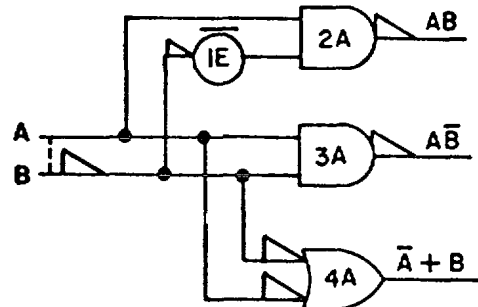

Figure 4-16. Example of Mixed Logic
**4-23.** The use of mixed logic and inverting hardware requires that the user watch the signal levels closely in order to understand the logic function of a gate. In the example of mixed logic shown in Figure 4-16, signals A and B enter the module from the left. Signal A is true when high (input not flagged) and signal B is true when low (input flagged). Looking at NAND gate 3A, it can be
**4-24.** Gate 2A in Figure 4-16 also requires two high-level inputs in order to generate a low-level output. The one input is high when A is true. The B input to gate 2A must also be high. This condition exists when B is true. To prove this, one can see that when B is true its input is low; however the low-level input for B is inverted at 1E so that the signal received by gate 2A is high. Thus when both A and B are true, gate 2A is complete and it generates a low-level output representing  $\bar{A}B$ .
**4-25.** Gate 4A in Figure 4-16 produces a high-level output when either input is low. Since B is low when true, gate 4A produces its high-level output when B is true. Signal A, however, is high when true and thus gate 4A responds only to the false condition of signal A. In this case then, the high-level output of gate 4A represents  $\bar{A} + B$ .